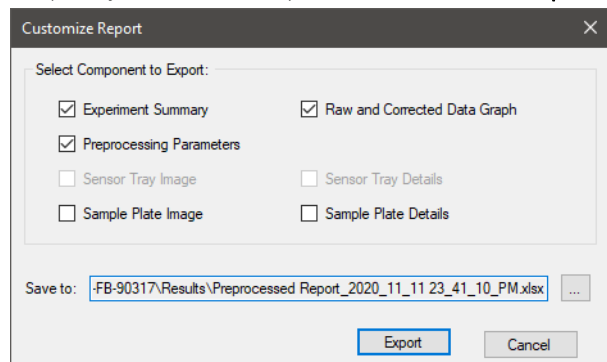

Figure 9-49: Excel Report Export Options
- Click  (**Excel Report**) to export the processed (corrected) data for your experiment or combined data set in .xlsx format. Select which experimental components to export, use the default report name or click ... to specify another name/location, then click **Export** (Figure 9-49).